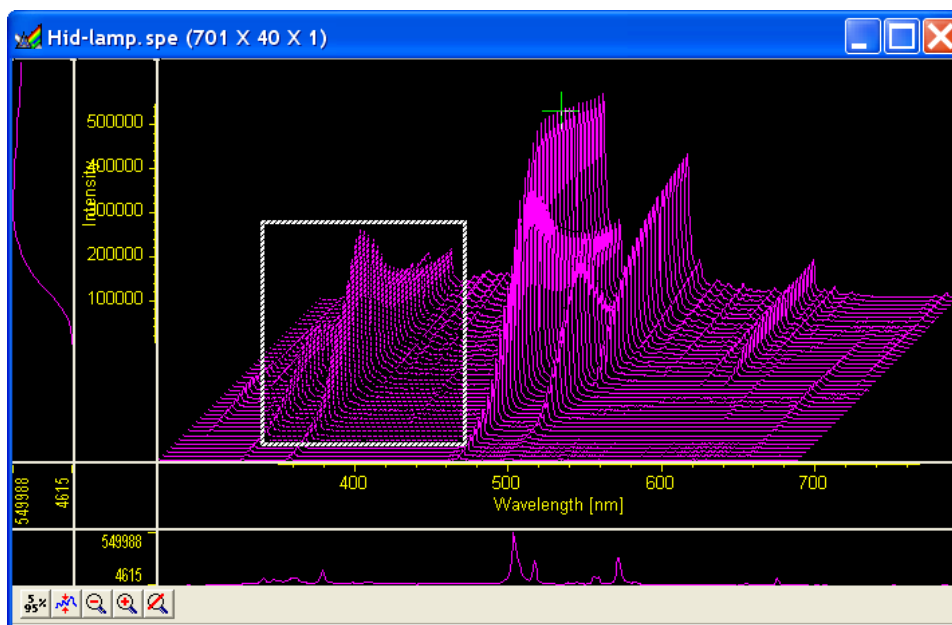

Figure 76. Hid-lamp.spe 3D graph with region selected for viewing
1. Using the mouse, drag a rectangular region on the image as shown in Figure 76.